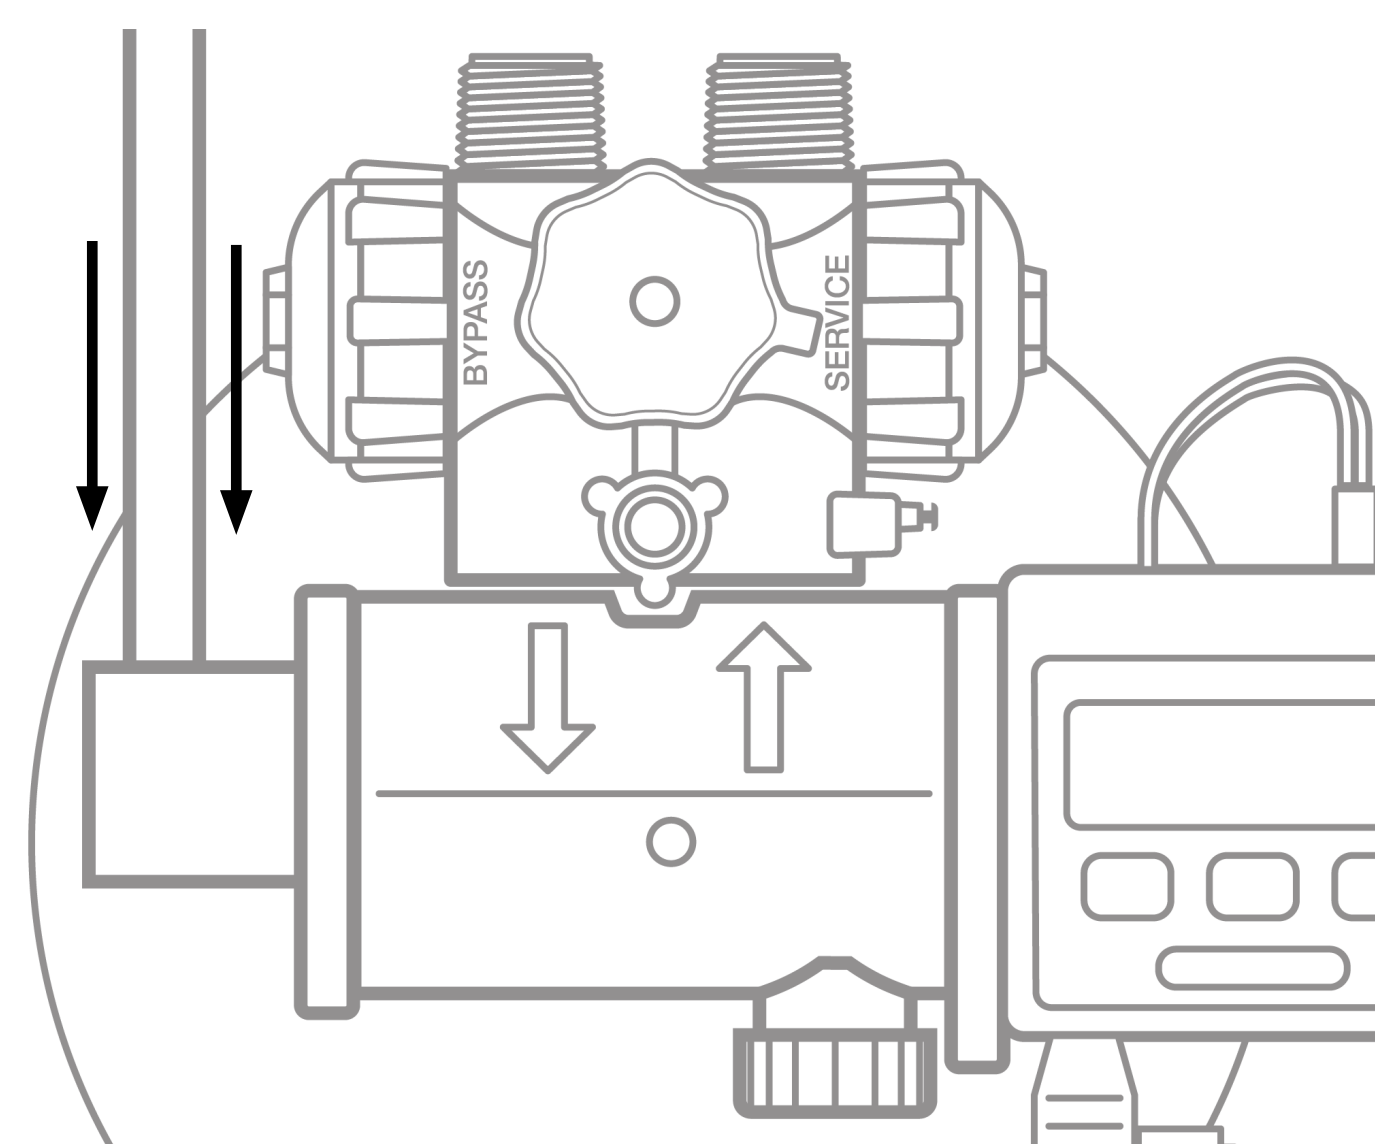

Figure 4: Connect Drain Line
1. Connect the drain line to the drain end cap (See Figure 4) with a minimum 1/2-inch I.D. tubing (supplied). The size cannot be reduced.